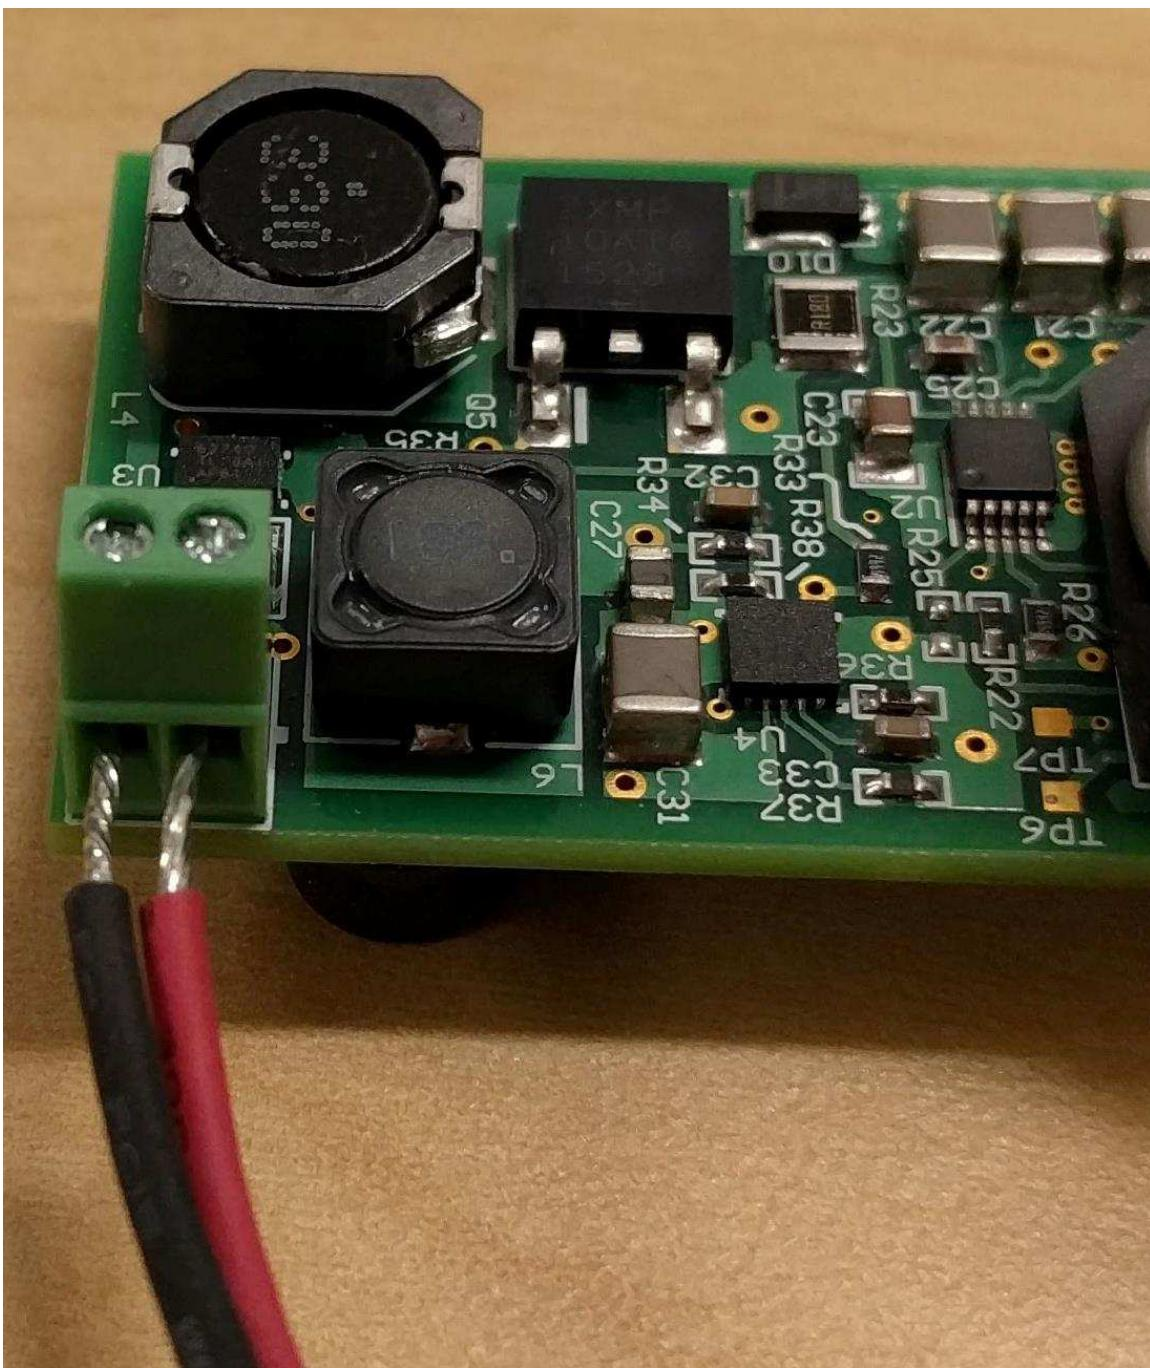

図 21. TIDA-01463 LED Output Connection on PCB
2. Connect the LED light to the output terminal, J7. If unsure about the polarity of the terminals, check the bottom of the PCB. The right terminal (+) is connected to the trace, and the left terminal (-) is connected to the ground plane (see 図 21).